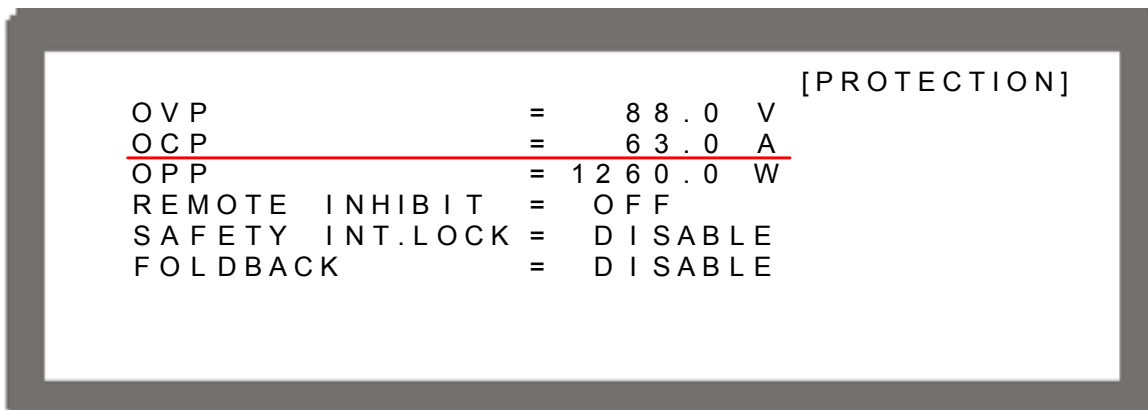

Figure 3-75
1. Use “”, “” keys to move the cursor to the column to be set as Figure 3-75 shows.